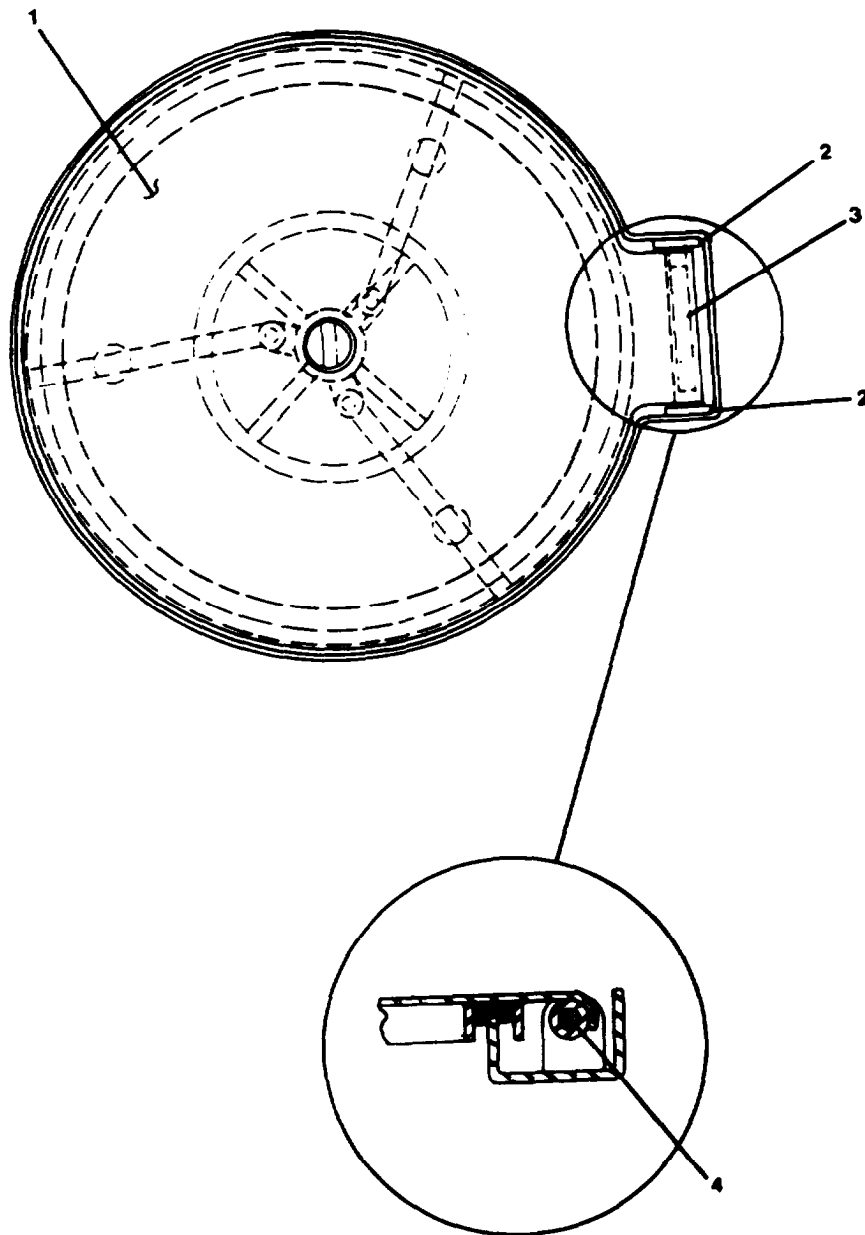

FIGURE 2-180. Replace Watertight Scuttle. Quick Action (Flush).
- a. Open scuttle (1, FIGURE 2-180).
- b. Remove cylindrical pin (4) from hinge pad.
- c. Remove flat washers (2) from hinge pad.
- d. Remove brass bushings (3) from scuttle (1).
- e. Remove scuttle (1) from closure.
- f. Install gasket (14) and gasket retainer (15) on scuttle.
- g. Install dog stud (8).
- h. Install preformed packing (9) and bronze bushings (7) on scuttle.
- i. Install shim (10) and spider (19).
- j. Place springs (5) and steel bushings (22) in position.
- k. Install guides (21) with dog arms (23) and tighten set screws (20).
- l. Install cylindrical pins (6) in dog arms.
- m. Secure cylindrical pins using cotter pins (16).
- n. Install handwheel (17) and secure using hexagon nuts (18).
- a. Place scuttle (1, FIGURE 2-180) in position on closure.
- b. Install brass bushings (3) on scuttle (1).
- c. Install flat washers (4) on hinge pad and align holes.